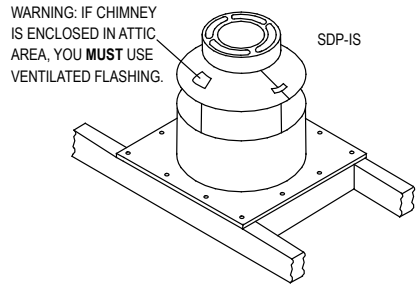

Figure 12
8. Install Attic Insulation Shield: Install the Attic Insulation Shield where the chimney passes into an attic. Its purpose is to prevent debris and insulation from getting too close to the chimney. (Figure 12). An installed Attic Insulation Shield is 14 inches high. In attic areas where this shield won't fit, a Square Support Box, (which is available in heights up to 36 inches), can be used instead of an Attic Insulation Shield, provided it reaches through the roof; refer to the **Roof Supported Installation section on page 14**. If the chimney is fully enclosed through the attic, an Insulation Shield is not required, however, again, Ventilated Flashing must be used.
d. Nail the Insulation Shield to the top of the framed opening with at least two 8-penny nails per side. (**Figure 12**).